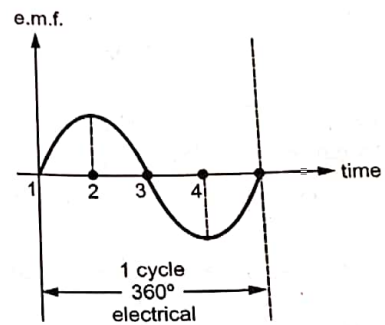

Fig. Q.72.2 Alternating nature of e.m.f.
• So if we plot the magnitudes of the induced e.m.f. against the time, we get an alternating nature of the induced e.m.f. as shown in the Fig. Q.72.2.